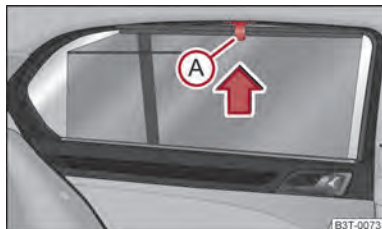

Fig. 50 Rear door: Sun screen
- Pull the sun screen at the handle (A) ⇒ fig. 50 and hang it in the bracket on the top edge of the door.